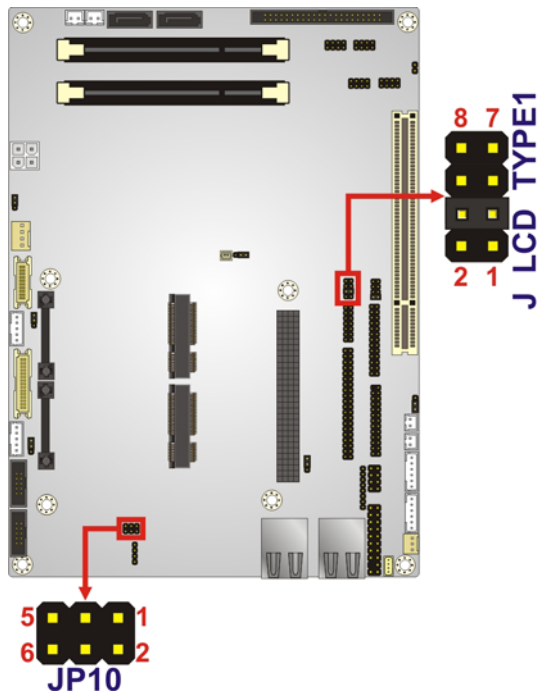

Figure 4-10: LVDS Panel Resolution Jumper Locations
- Jumper Location:** See Figure 4-10